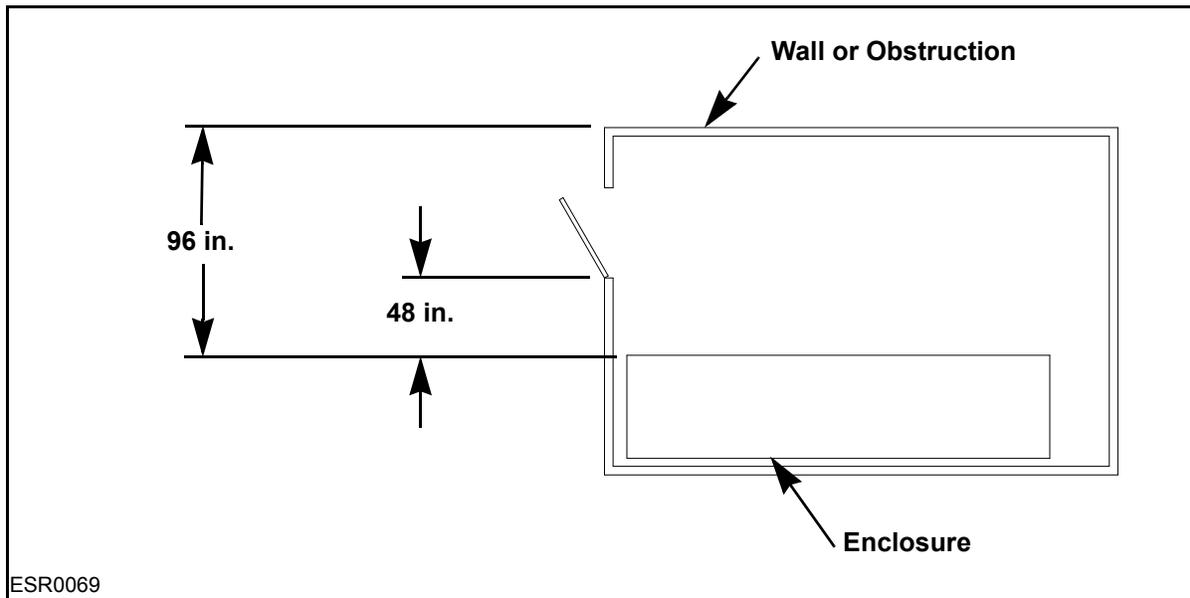

Figure 5-7: Workspace When There Is One Enclosure and One Doorway
- A minimum of 48 inches is required between the front of the enclosure and the closest doorway opening when the equipment in the enclosure is 600 volts or less to ground. See **Figure 5-7**.
- A minimum of 96 inches is required between the front of the enclosure and a wall or obstruction when the equipment in the enclosure is 600 volts or less to ground. See **Figure 5-7**.